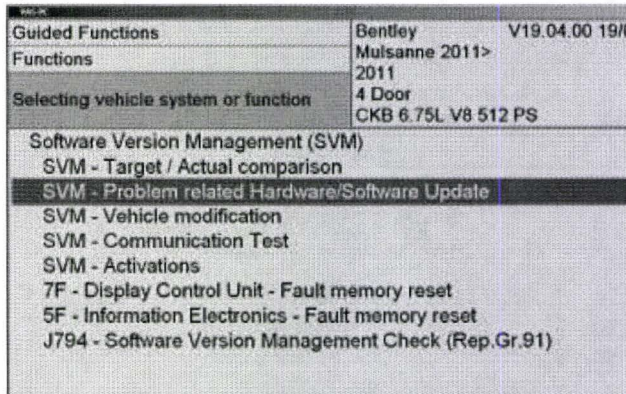

Figure 4
8. Select *SVM – Problem related Hardware/Software Update* (see Figure 4)